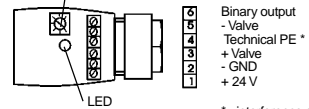

Figure 3: Type 2510 Diagnosis
- Clamp the lines as shown in the connection diagram (Figure 3)
#### SETTINGS (See Figures 3, 3.1, 3.2, 3.3)